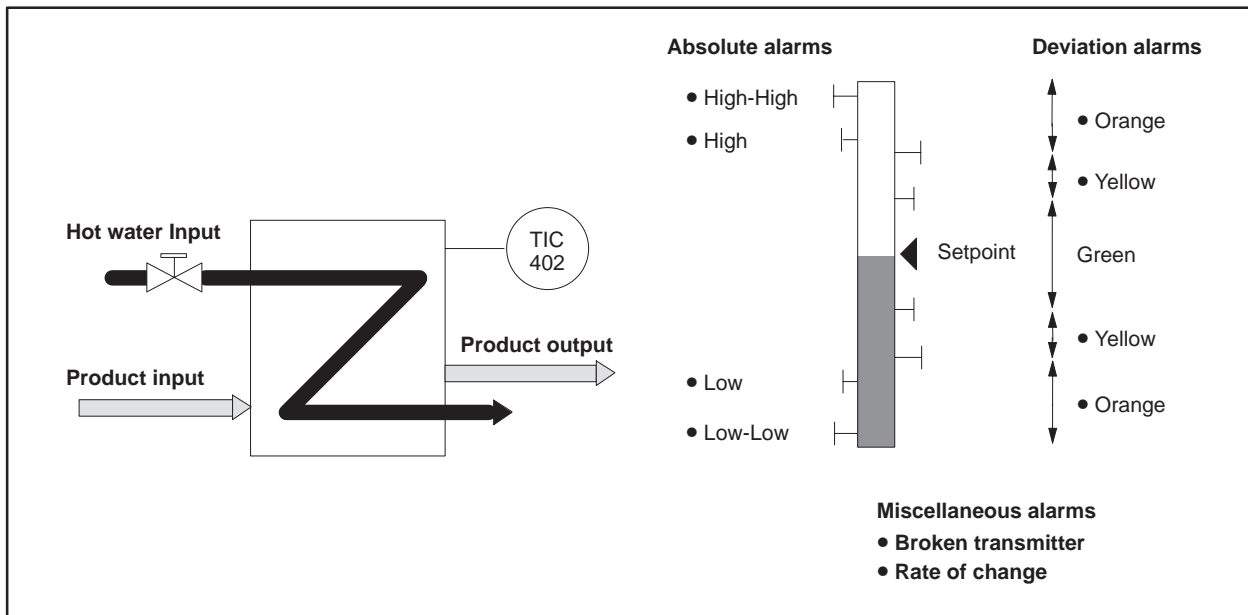

Figure 8-1 Example of Analog Alarm Application
The analog alarm function allows you to monitor an analog input signal by setting standard alarms on a process variable (PV) and a target setpoint (SP). Eight alarms are available, as illustrated in Figure 8-1.